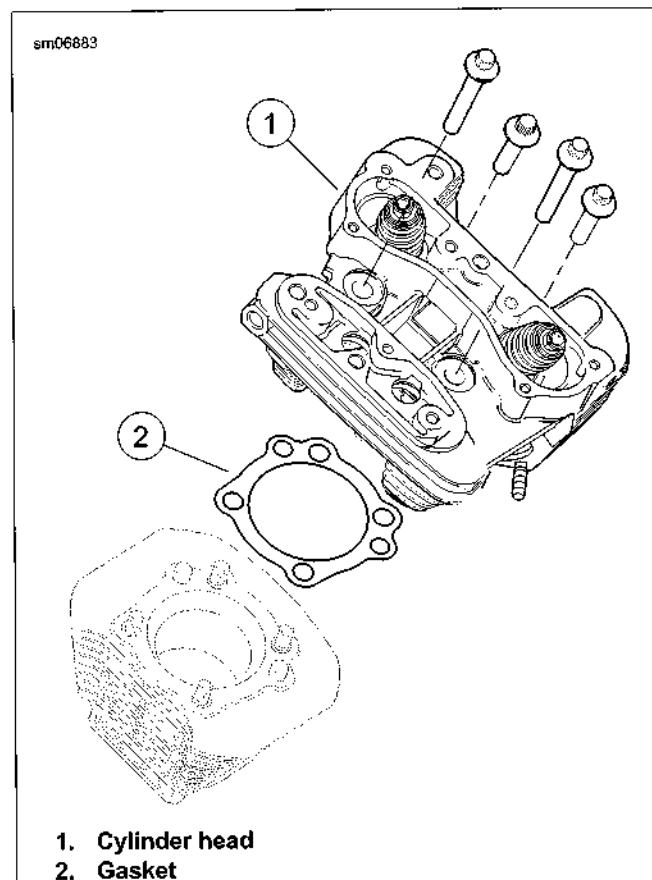

Figure 3-70. Cylinder Head Installation
5. See Figure 3-70. Install a new head gasket to cylinder.